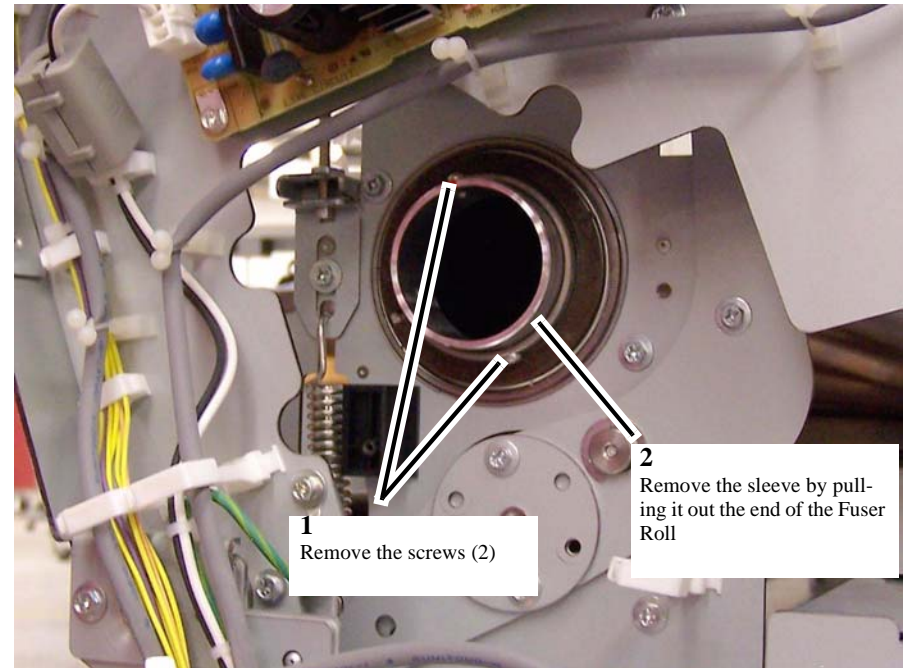

Figure 7 Removing the Sleeve (left end of Fuser Roll)
- b. While holding the Fuser Roll to prevent it from pulling out of the right side of the Fuser Frame, remove the sleeve which is inserted into the left end of the Fuser Roll (Figure 7).
- a. Remove the Bearing Collar and the Bearing. (The procedure is the same as for the left end; refer to Figure 7.)